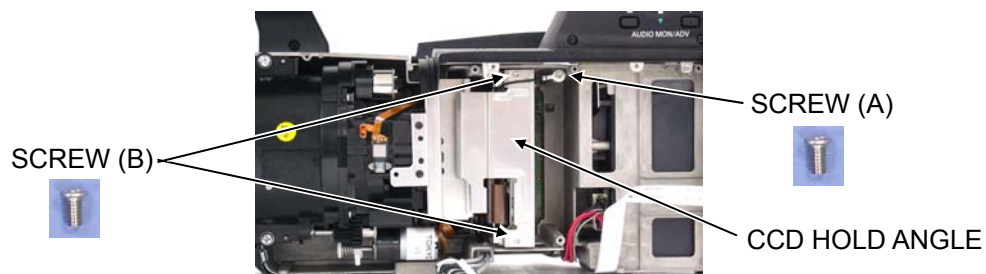

Figure 10-1
3. Unscrew a screw (A) and remove the GND cable as shown in figure 10-1.
4. Unscrew the 2 screws (B) and remove the CCD Hold Angle as shown in figure 10-1
3. Unscrew a screw (A) and remove the GND cable as shown in figure 10-1